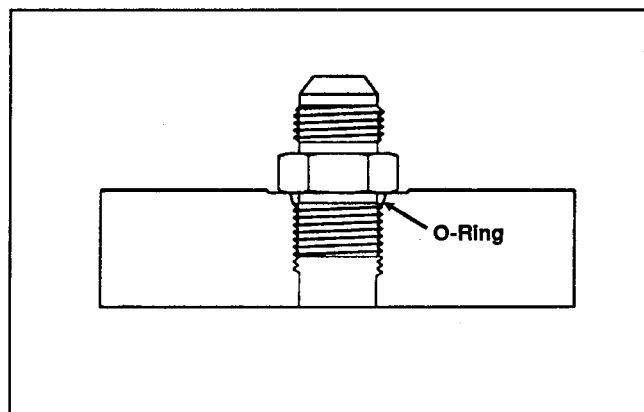

Figure 3
4. Install the fitting into the port and tighten it down full length until finger tight (Fig. 3).